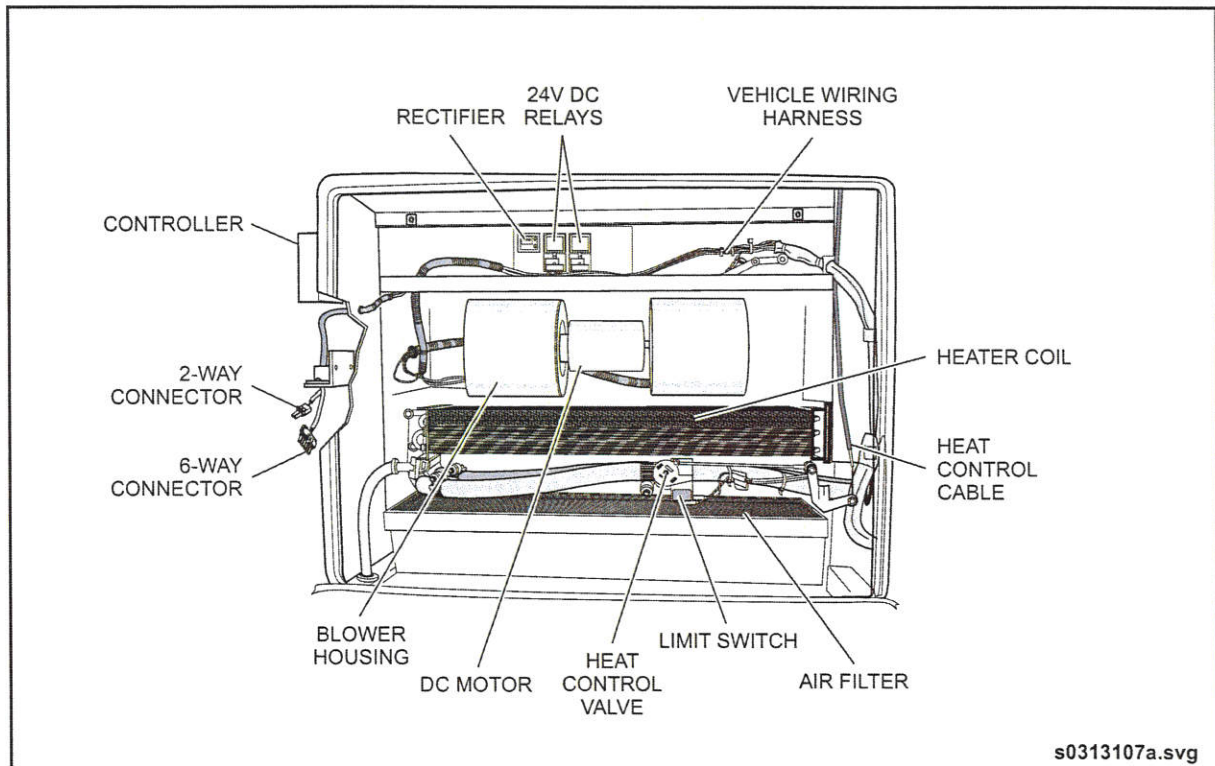

Fig. 10-6: Defroster Components
2. Open the defroster/wiper access door to gain access to the defroster power harness. See "Fig. 10-6: Defroster Components" on page 18.